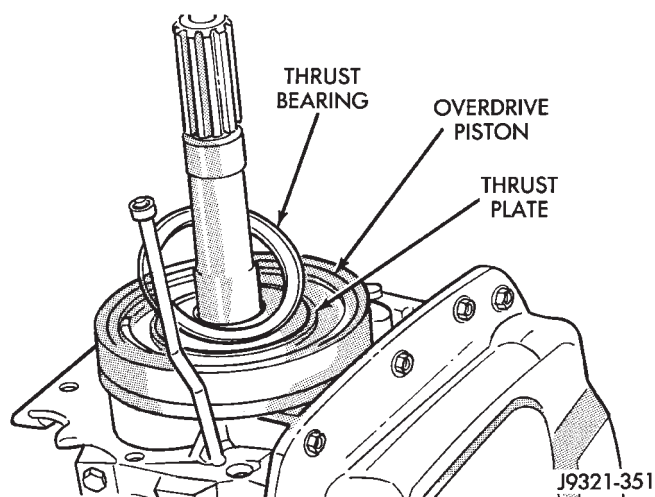

Fig. 4 Overdrive Piston Thrust Bearing Removal/Installation
- (5) Remove overdrive piston thrust bearing (Fig. 4).